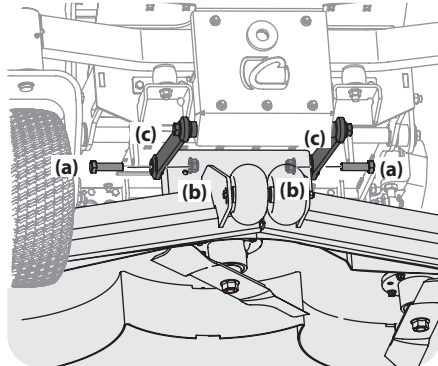

Figure 4-17
- Remove the hex screws (a) flange lock nuts (b) securing the front deck control rods (c) to the deck. See Figure 4-17.